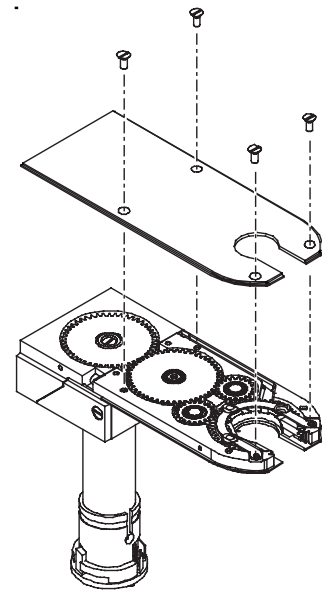

Figure 47 *Removing the Brush Side Cover*
5. Remove the four plastic flathead screws securing the brush side cover. See Figure 47.